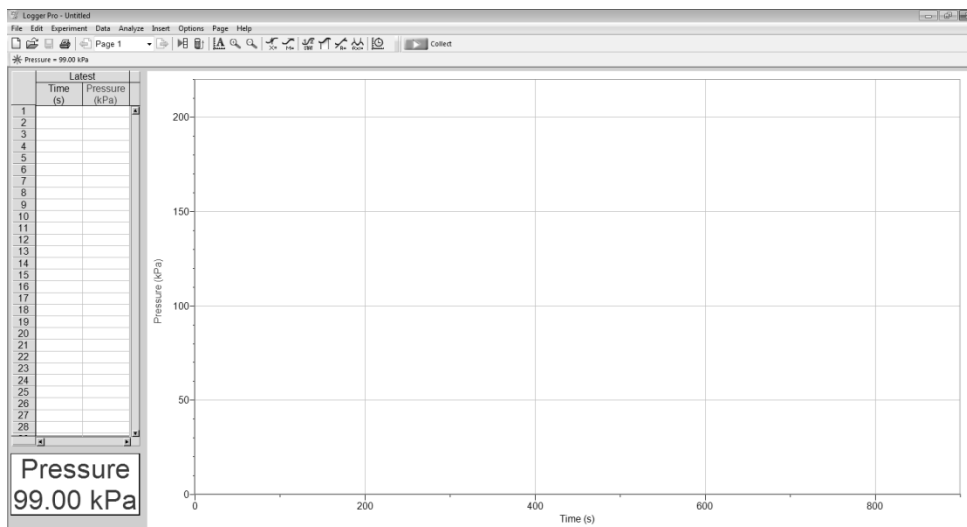

Figure 2. The Logger Pro window. In this example, the pressure is 99.00 kPa.
- Open the Logger Pro software on the laptop computer. The computer monitor will display the pressure of the air that is trapped inside of the syringe, measured by the gas pressure sensor. This pressure is shown in the lower left corner of the Logger Pro window (see Figure 2). As you adjust the volume, you will record the pressure of the air inside the syringe in your data table in the column labeled “Pressure”.